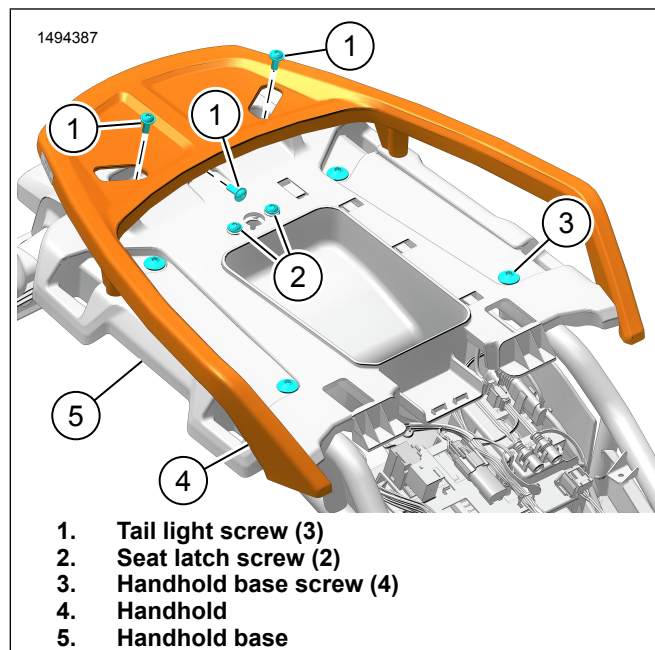
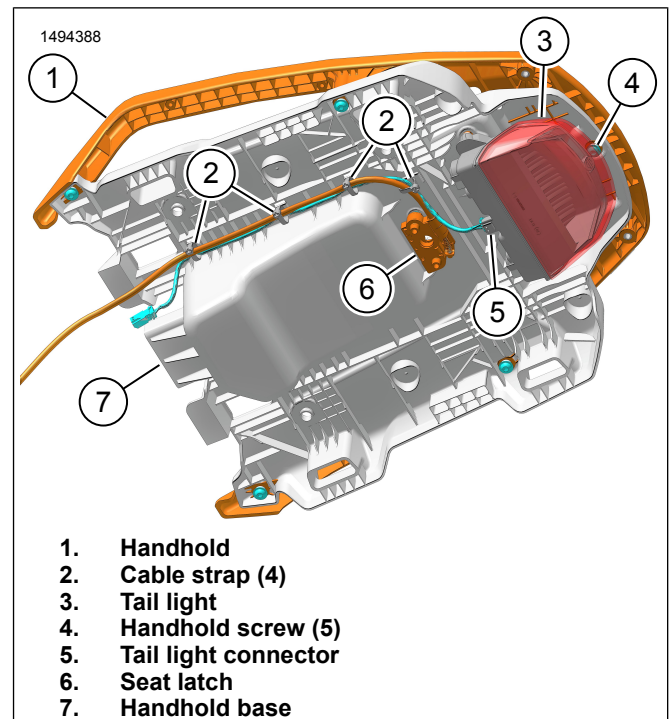

Figure 3. Hand Hold
Figure 4. Disassemble Handhold Base
1. See Figure 3. Remove handheld base screws (3).
2. See Figure 4. Remove tail light (3).
- a. Disconnect tail light connector (5)
- b. See Figure 3. Remove screws (1).
3. See Figure 4. Remove handheld(1) from handheld base (7).
- a. Remove handheld screw (4).
See Figure 4. Remove and discard cable straps (2).
5. See Figure 4. Remove seat latch (6).
- a. See Figure 3. Remove seat latch screws (2).
1. See Figure 4. Install seat latch (6).
2. See Figure 4. Install tail light (3).
- b. Connect tail light connector (5)
3. See Figure 4. Route seat latch cable and tail light harness. Secure with **new** cable straps (2).